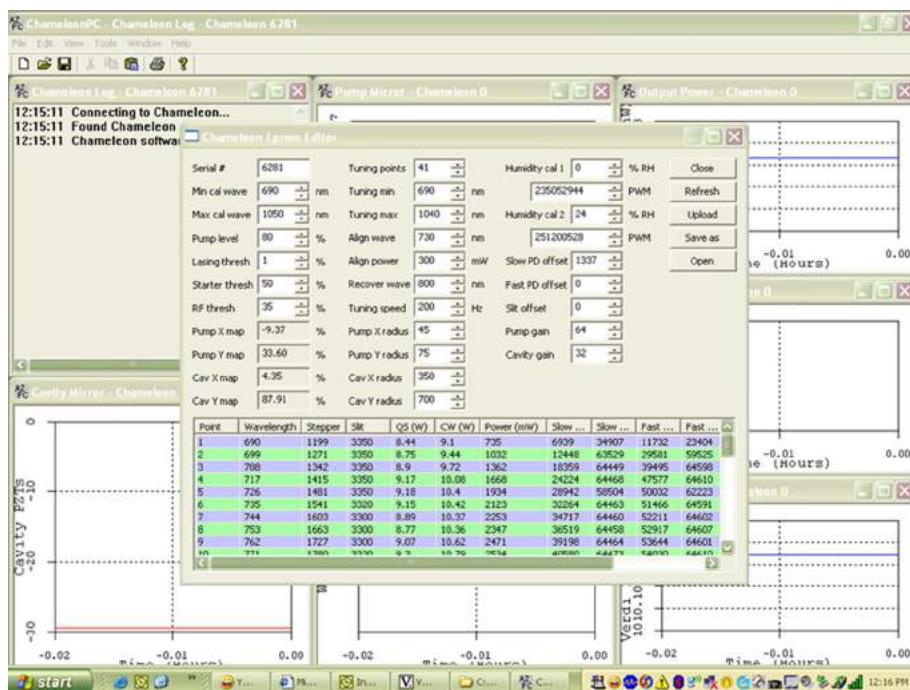

Figure 5.13-1. Chameleon EEPROM Editor
2. If not already, turn the power switch at the rear of the Chameleon power supply to the ON (1) position. Verify that the power supply turns on with no faults displayed on the power supply front panel LCD.
5. Click on the "Tools" drop-down menu. Click "Chameleon Eprom Editor". The Head EEPROM data should load automatically (Figure 5.13-1).